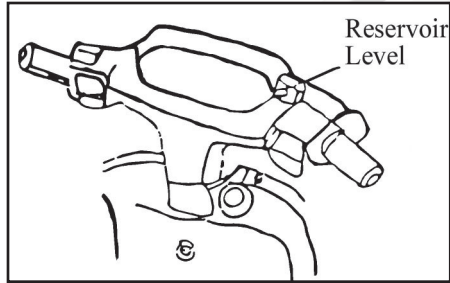

Fig. 3
- Check the fluid level by looking at the reservoir. *See Fig. 3.* The fluid level must be between the two lines. If it is below the lower line, check the brake line and cylinder for a possible leak.